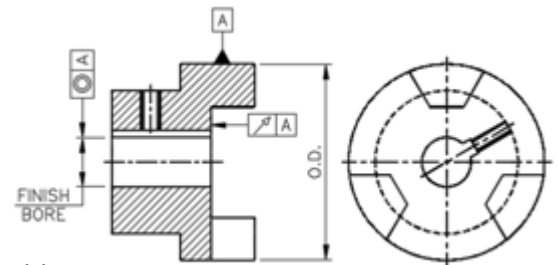
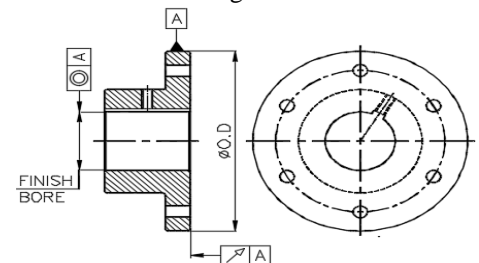

Fig. 2.1
Fig.2.2
3.1 Finish Bore Instruction (Fig. 2.1 & 2.2)
- Mark the keyway centre line such that keyway should come between two jaws (For L, SW, RRS, H, RFC, RRJ & RN hubs, refer Fig. 2.1) and between two holes (For SWQ, SWS & HR hubs, refer Fig. 2.2).
- In case of spacer type of couplings, the spacer length is normally equal to the distance between shaft ends of the equipments. Refer fig. 2.1 & 2.2.